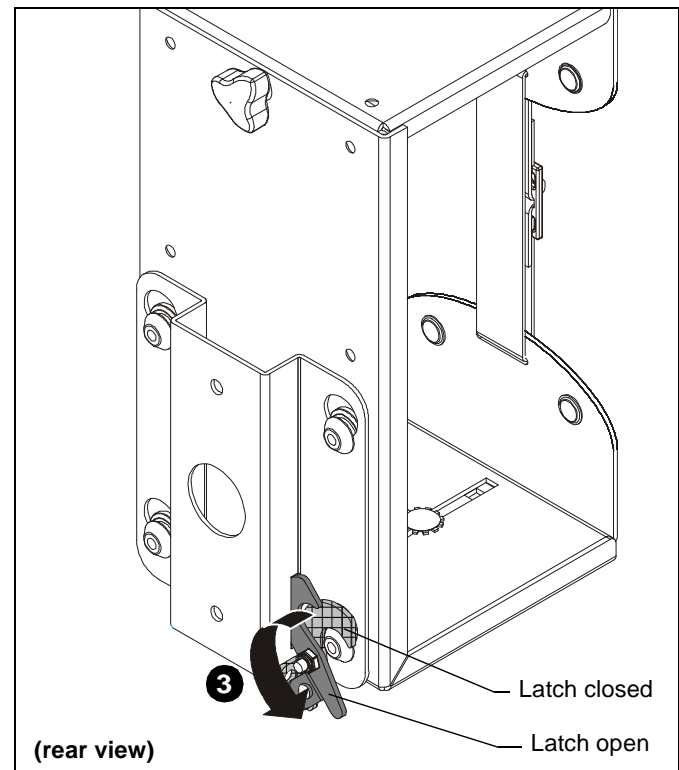

Figure 16
1. Ensure bracket flag is in the open position. (See Figure 16)
3. Move flag to closed position in order to fully secure mount to bracket. (See Figure 16)
4. Ensure bracket flag is in the open position. (See Figure 16)
7. Move flag to closed position in order to fully secure mount to bracket. (See Figure 16)